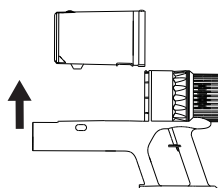

Figure 14
2. Press the dust container release button and separate the dust container from the motor body, as shown in **Figure 14**.